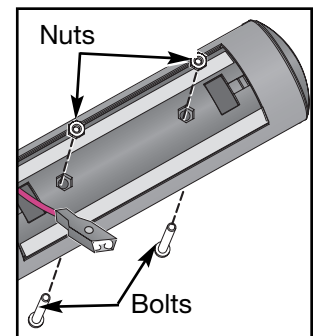

Figure 30
- F. While being careful not to overtighten and crack the housing, place the nuts in their holes and secure them with the bolts. **NOTE: It is easier to place the nuts on the top and the bolts from the bottom.** See Figure 30.